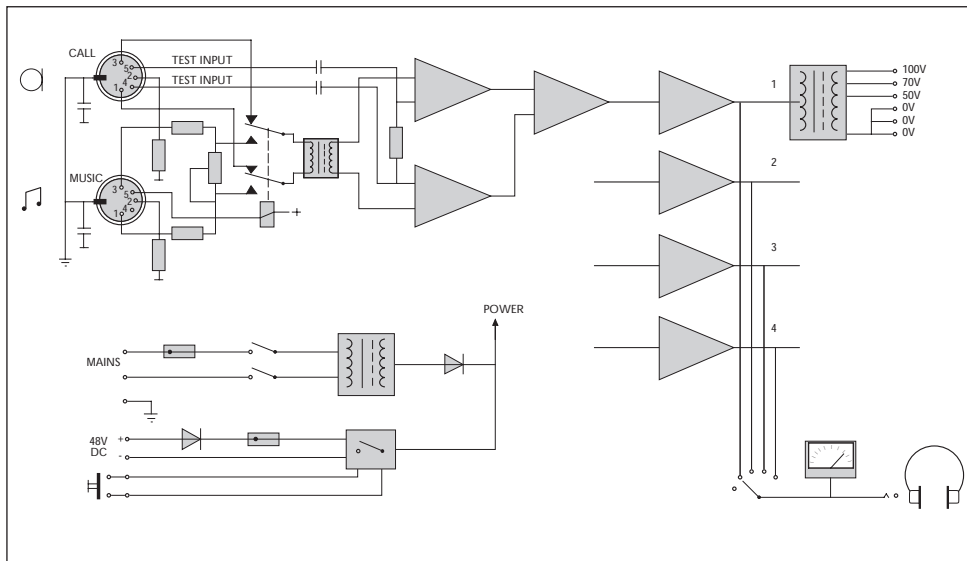

Fig. 6 - SQ45 Block diagram
The pins of the corresponding plugs (fig. 6) are to be connected as described next:
2.5 Music input (fig. 6)
2.6 Priority and Test input (fig. 6)